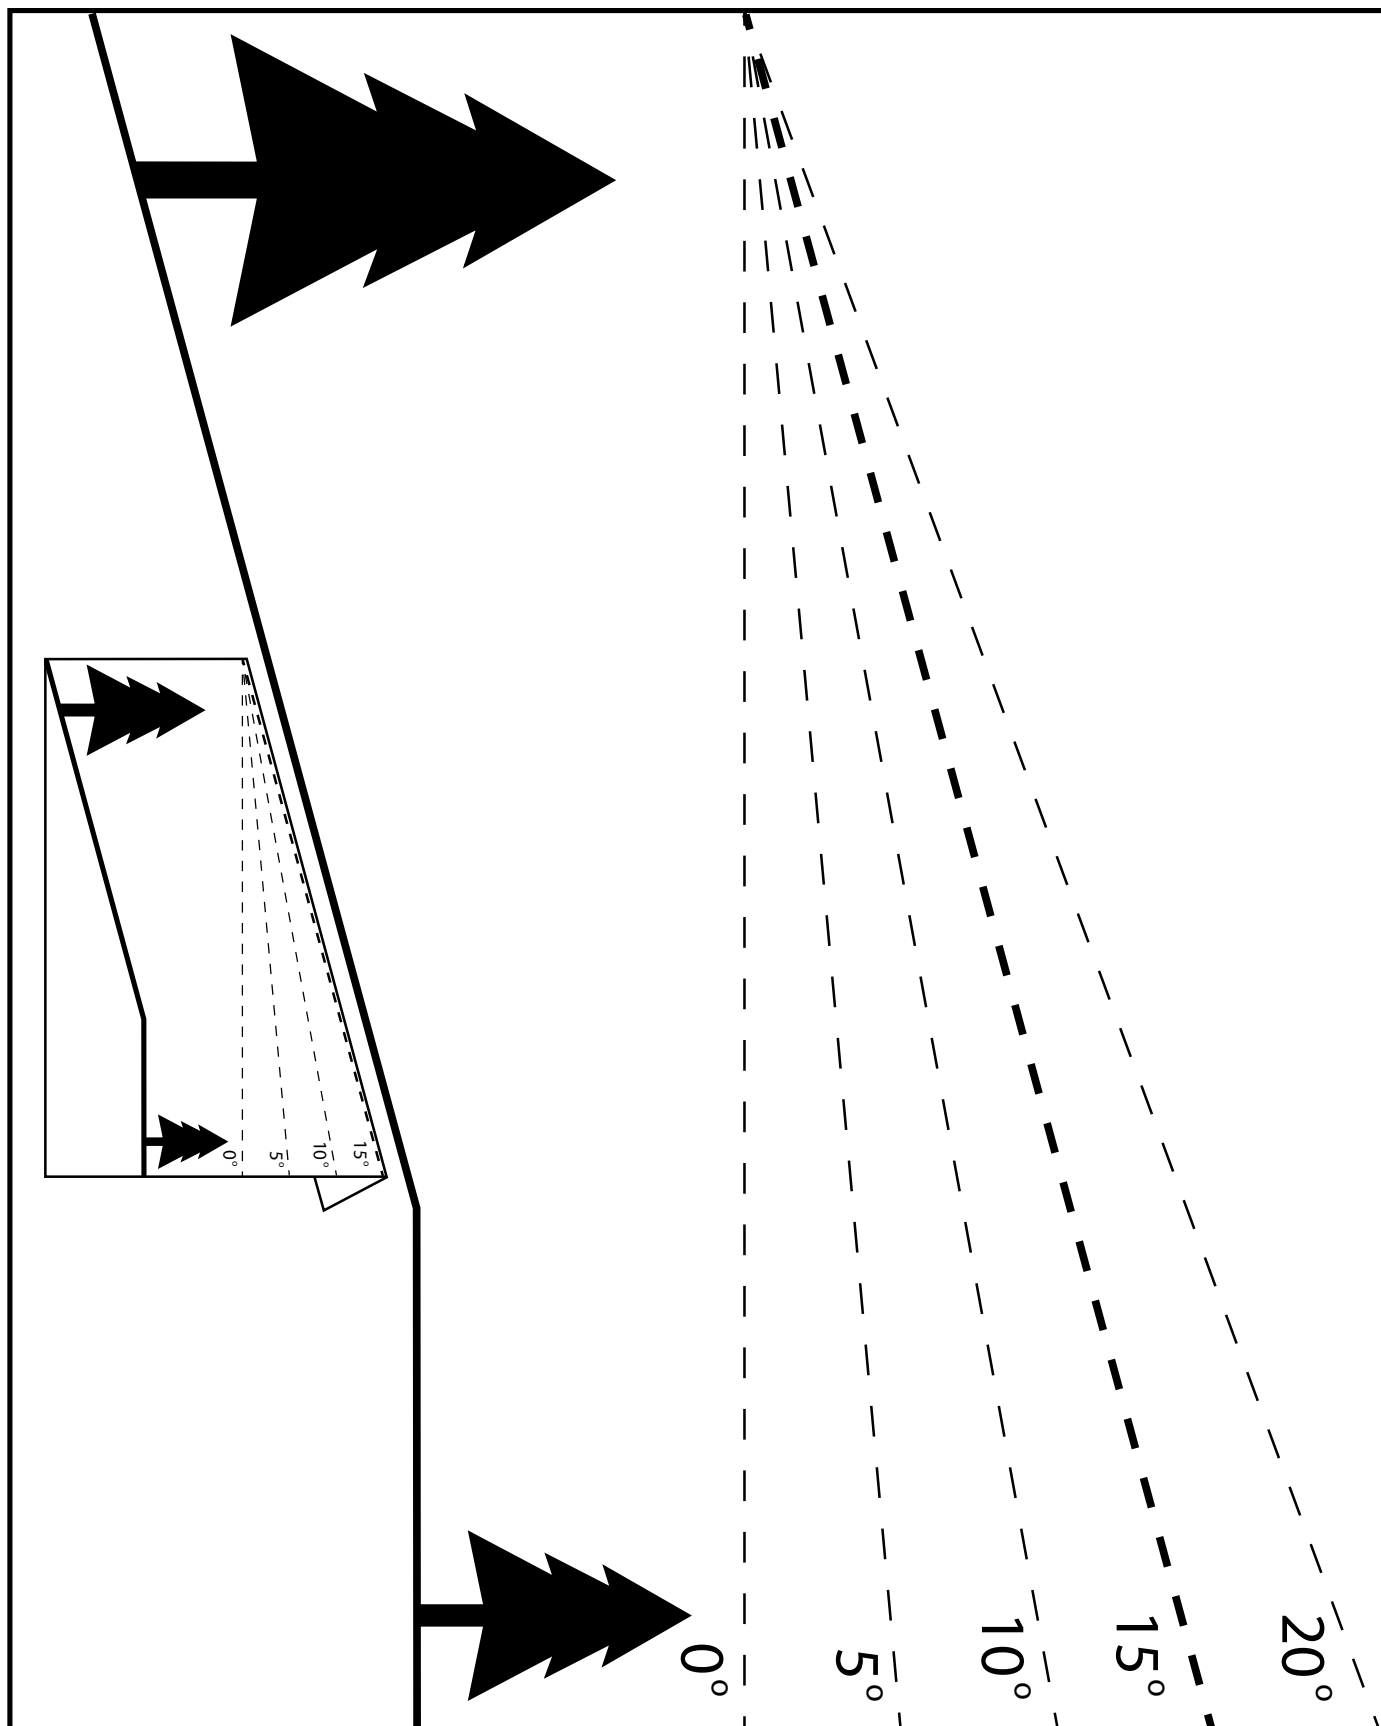

Figure 2-5. Slope Angle Graph
20. Be cautious when loading and unloading onto trailers or trucks. Use only a full width ramp. Ramp angle should be no more than 15 degrees. See Figure 2-5 to determine approximate slope of the ramp. Back up the ramp and drive down forward.
Stay off of slopes too steep for safe operation. To check a slope, attempt to back up it (with the cutter deck down). If the machine can not back up the slope without the wheels slipping, do not operate the machine on this slope. Under no circumstances should the machine be operated on slopes greater than 15 degrees. See Figure 2-5, page 11 to determine approximate slope.
Ramp angle should be no more than 15 Degrees. See Figure 2-5, page 11 to help determine approximate slope.